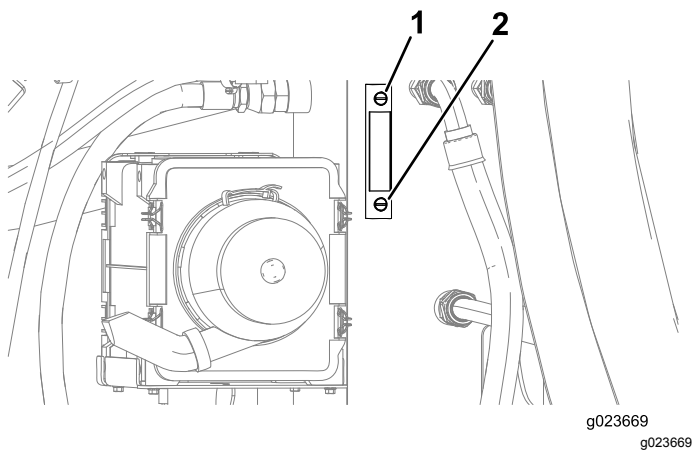
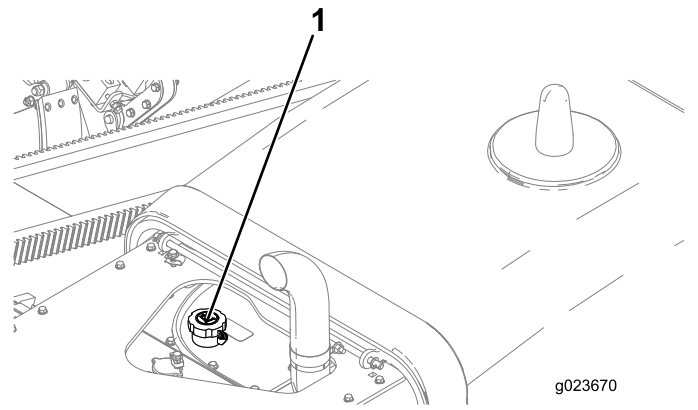

Figure 119
Figure 120
4. Look at the sight gauge on the hydraulic tank and check the level of the oil (Figure 119).
5. If the level is low, open the hydraulic-tank cap (Figure 120), add a small amount of oil and wait 2 minutes for the oil level to stabilize in the sight gauge (Figure 119).